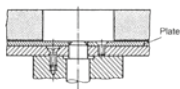

Figure 1
- Fig. 1: Grinding wheel, cemented